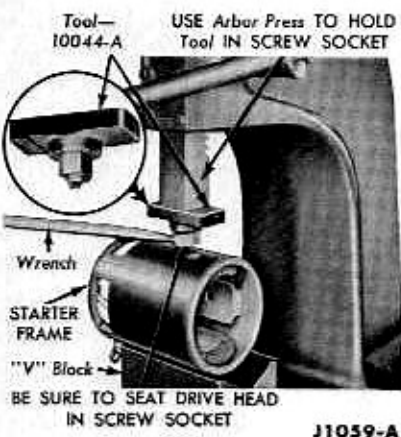

FIG. 14—Pole Shoe Screw Removal
5. Unscrew the three field-pole shoe screws as shown in Fig. 14. The arbor press prevents the wrench from slipping out of the screw.